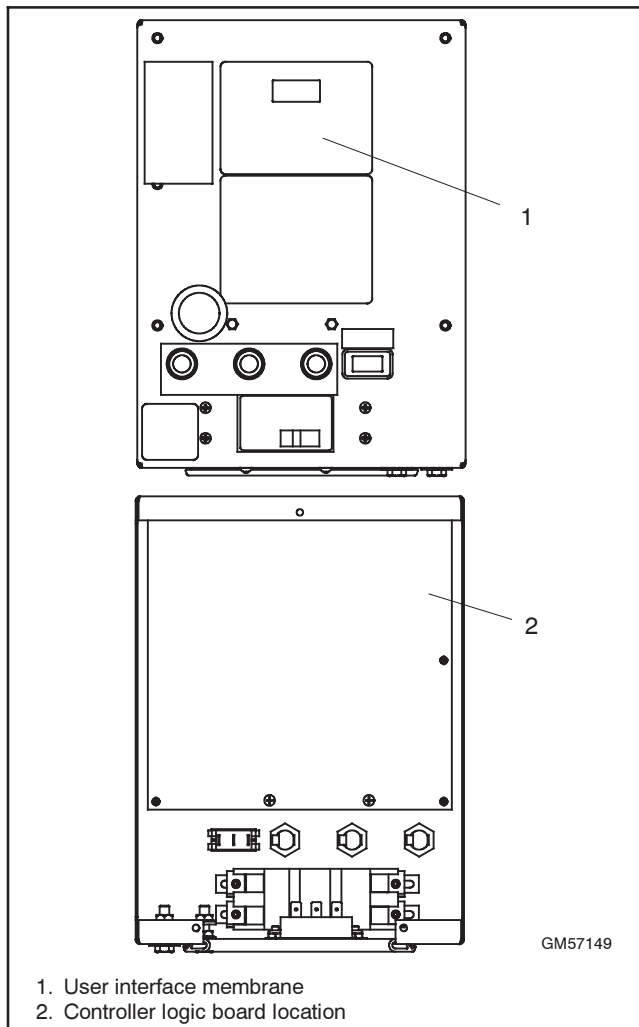

Figure 5-25 Controller
7. Check that the replacement board is positioned so that the display shows through the opening in the cover plate and then press the board onto the standoffs. Check that all corners are securely mounted. See Figure 5-25.